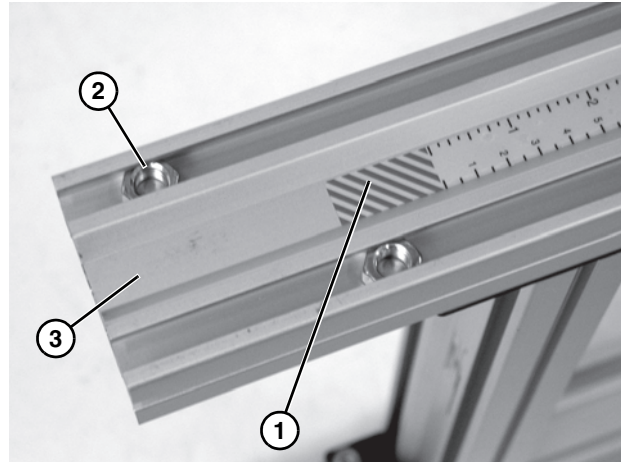

Figure 7
- On the end with red warning area (Figure 7, item 1) install one (1) hex nut (Figure 7, item 2) into each outside stand leg (Figure 7, item 3) t-slot.